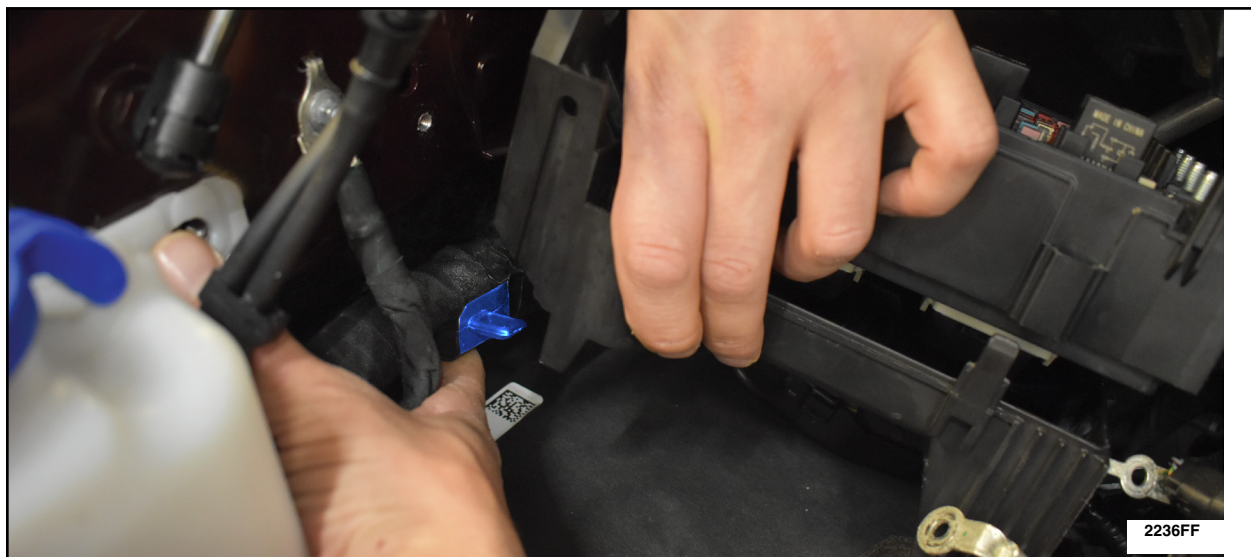

FIGURE 12
12. Release the 2 harness retainers from underneath the lower BJB. See Figure 12.